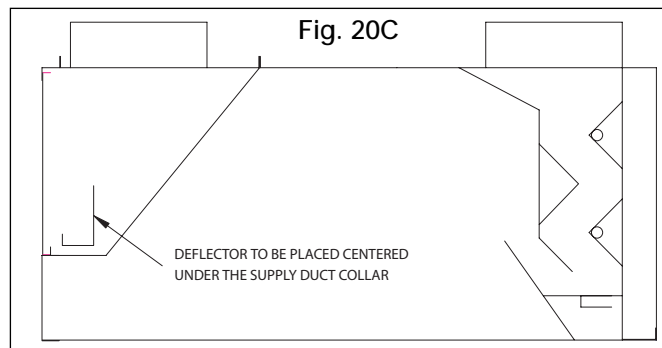

Fig. 20C
4. The deflector is centered under the supply duct. (see Fig. 20C)